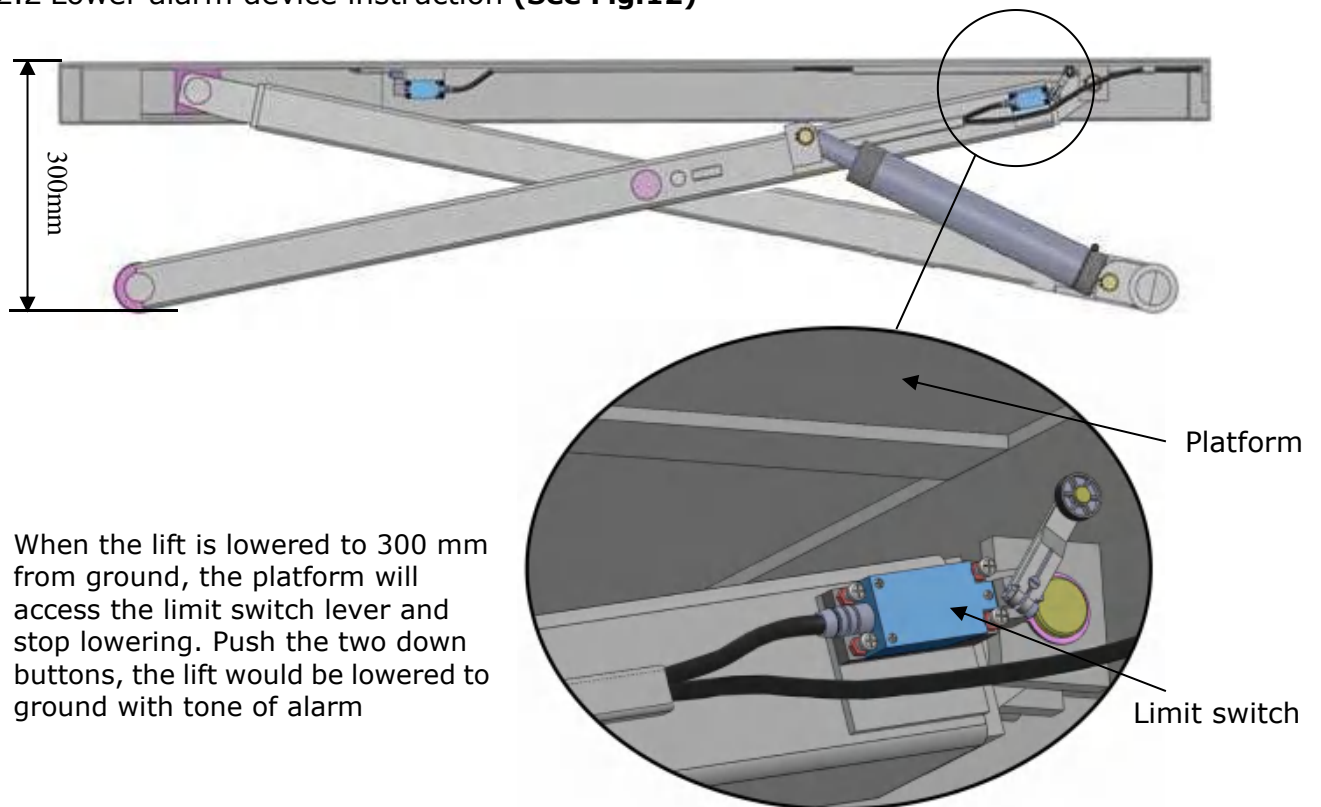

Fig.12
2.2 Lower alarm device instruction (See Fig.12)